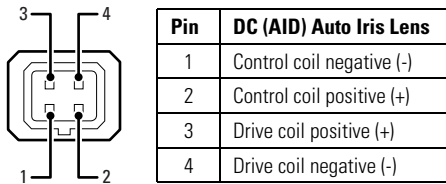

Figure 2. Lens Connections
- c. Connect the auto iris lens to the 4-pin connector located on the side of the camera. Refer to Figure 2 for pin designation and iris drive connector information.